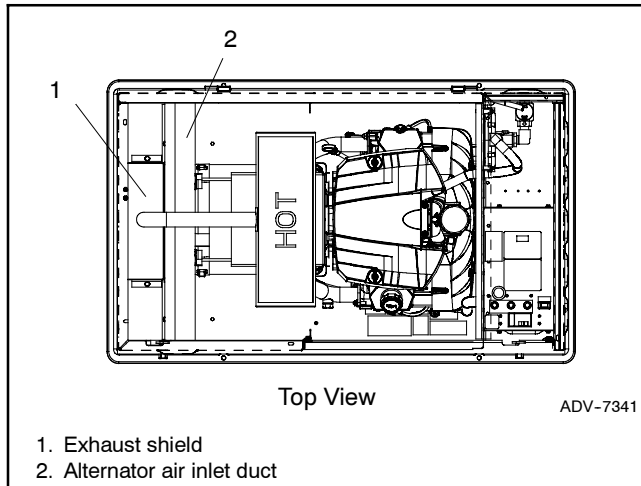

Figure 6-7 Shield and Alternator Air Inlet Duct, Top View
15. Remove the exhaust shield and alternator air inlet duct. See Figure 6-7.